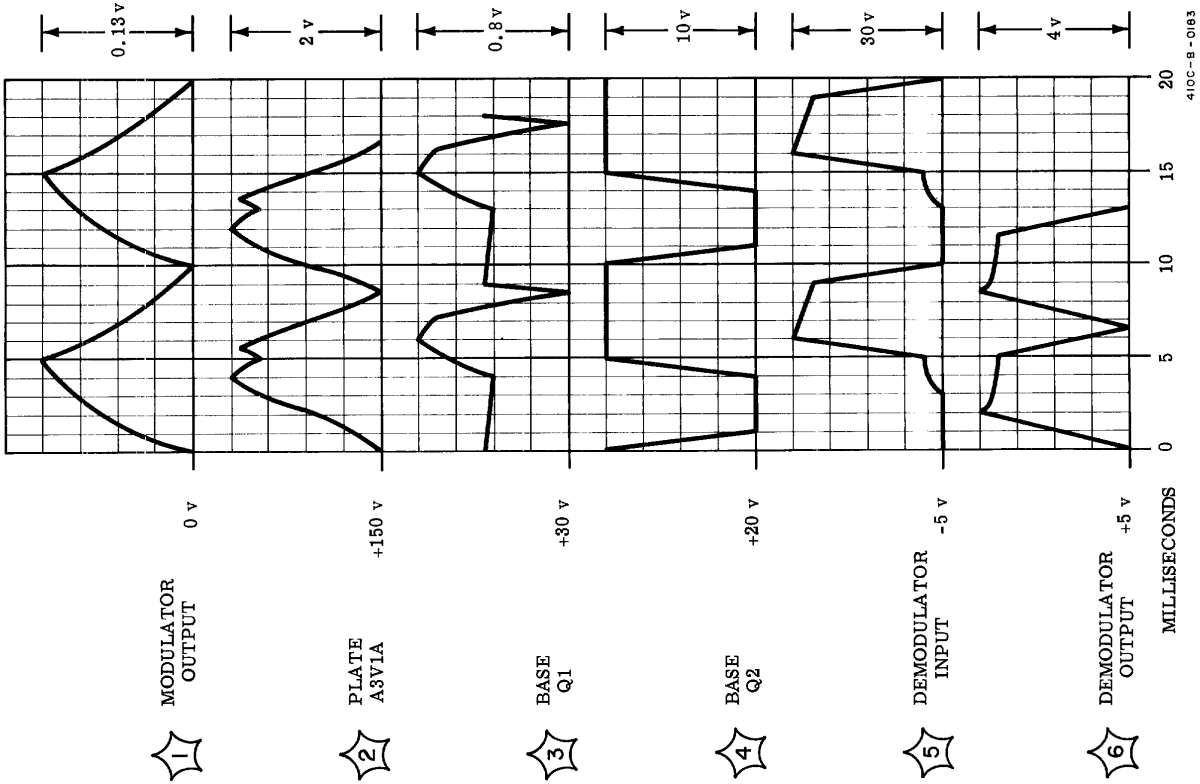

Figure 5-9. Typical Amplifier Waveforms
5-44. Refer to Figure 5-9 for typical waveforms encountered in the Model 410C. Waveforms represent signals which occur when instrument is operating during overdriven conditions (.5 vdc input to .015 v RANGE).
- ⑤ Measure the dc voltage at Pin 1, A3. This voltage is typically 13-15 mv. If this voltage is correct, proceed to ⑥; if not, proceed to ⑦.
- ⑥ Investigate switch circuit. Refer to astericks in Table 5-9 for hints on how to troubleshoot switch circuit.
- ⑦ Observe input voltage to demodulator using an oscilloscope. Refer to Figure 5-9 for normal waveform under overdriven conditions specified. If waveform is normal, proceed to ⑧; if not, proceed to ⑨.